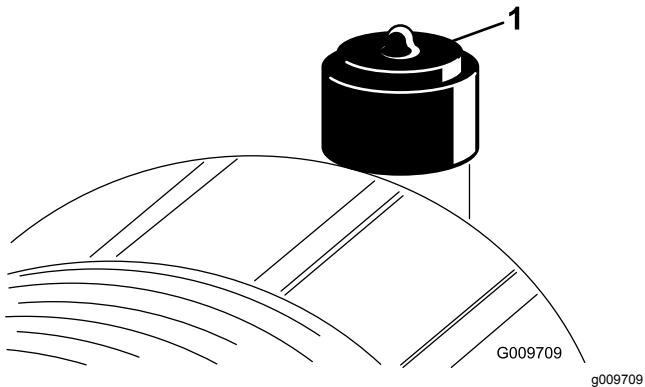

Figure 49
Service the air-cleaner filter only when the service indicator (Figure 49) requires it. Changing the air filter before it is necessary only increases the chance of dirt entering the engine when you remove the filter.
10. Reset the indicator (Figure 49) if it shows red.